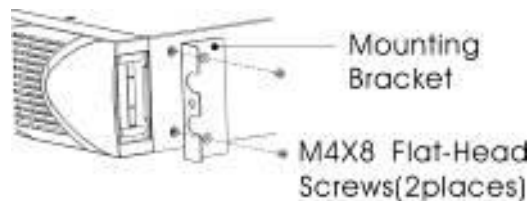

Figure3 - Installing the Mounting Brackets
- i) Align the mounting brackets with the screw holes on each side of the UPS and fix with the supplied M4x8 flat-head screws (see Figure 3)